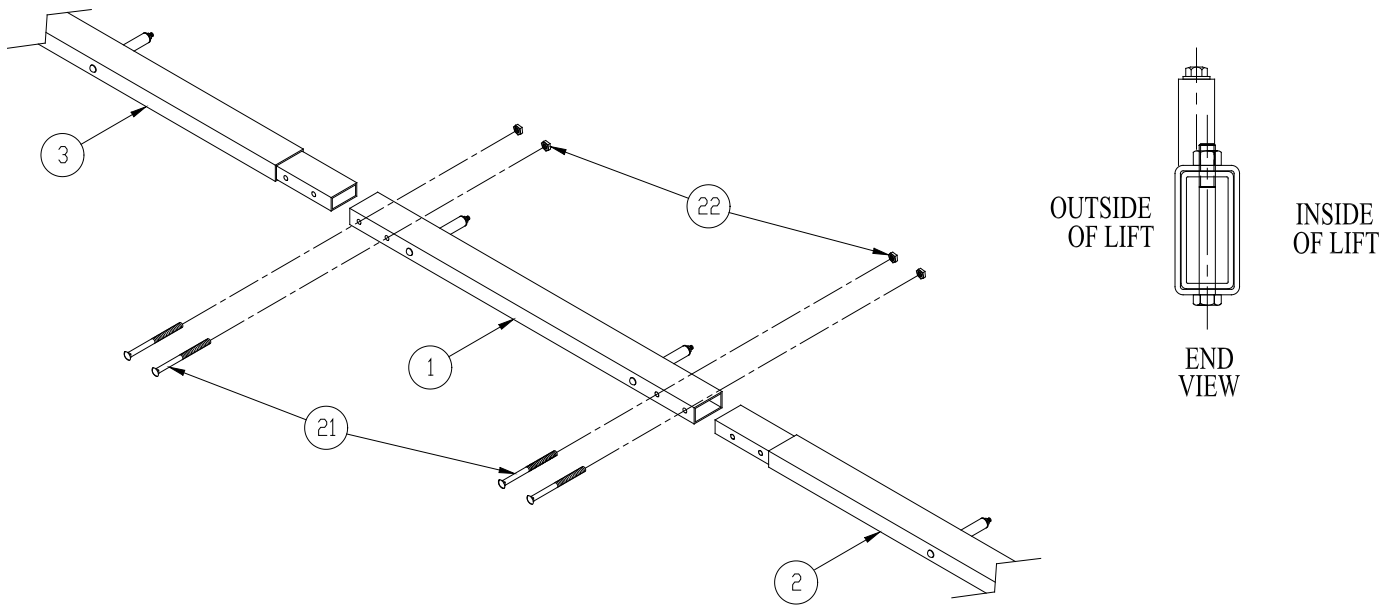

Figure 2-2.
2. Refer to **Figure 2-2**. Assemble both sides of your canopy frame on the ground using (1 ea.) left hand (3), right hand (2), and center (1), stringers for each side assembly. Canopy rib bushings are offset to the outside of stringer face. Make certain that all stringers are positioned properly. Fasten each joint together with hardware shown to inside stringer face. Each stringer assembly **MUST** be straight for proper fabric fitting.